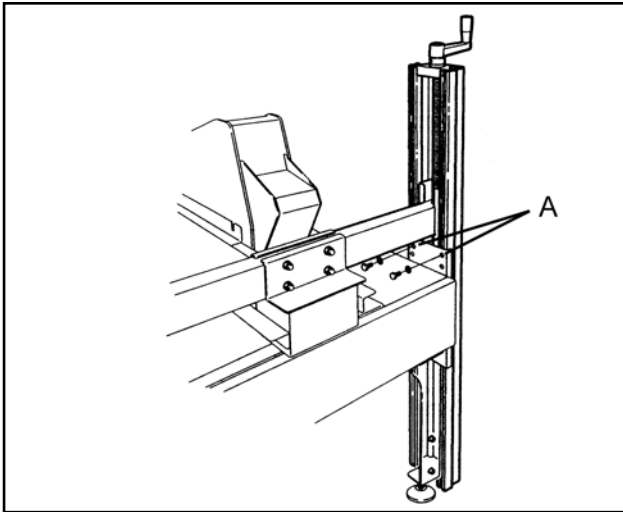

Figure 2-7 – Remove the Two Screws
3. Remove the two screws (**A**) that fasten the column (with the handle) to the bench of the machine, as shown in Fig. 2-7.